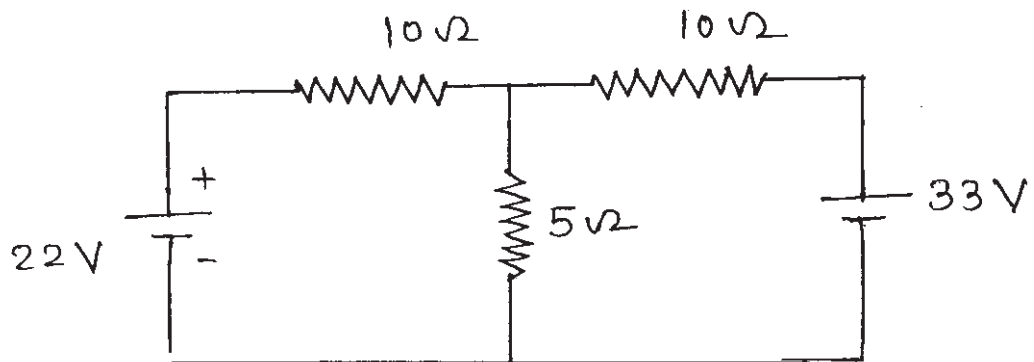

Fig. 6
- b) State and prove Tellegens theorem and verify it for Network shown in Fig. 6. [8]